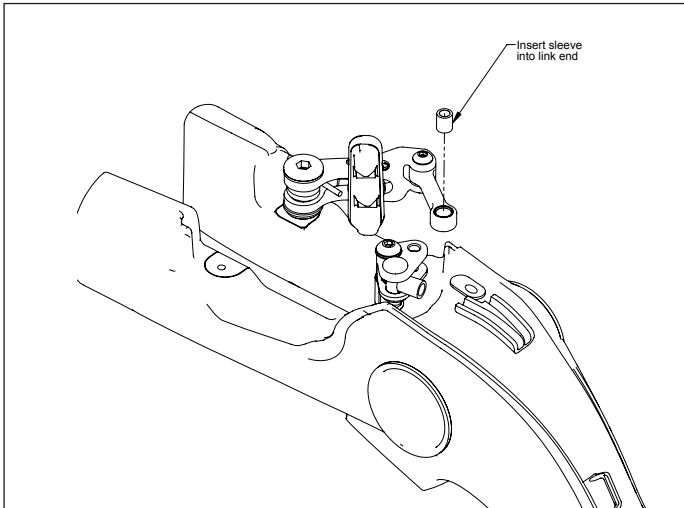

Figure 4
8. Insert the slave link sleeve into the slave link. (Figure 4)